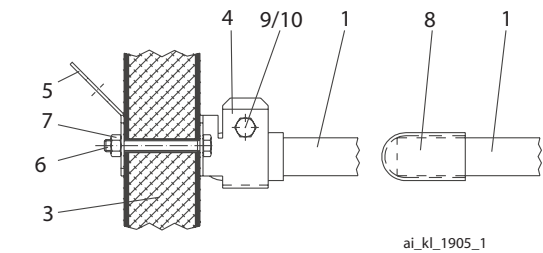
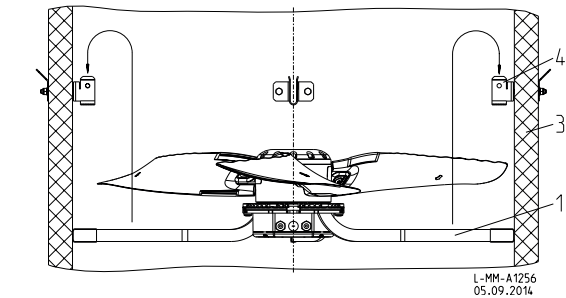

figure 2
figure 3
Tighten the mounting bracket (4) and the support bracket (5) **fig. 2** with screws (6) only so far that the mounting bracket and support bracket do not dig into the chimney wall (3).
Self-locking nuts (7) are used for securing the screws. The enclosed protective caps (8) are to be pushed onto the ends of the fan supports (1), **fig. 2**.
Feed the fan (1) into the chimney in accordance with **fig. 3**, and center it in the mounting bracket (4). In addition, the support is to be secured in accordance with **fig. 2** by using bolts (9/10). The four support clamps (5) are used as support eyelets for additional fixings (e.g. by standing ropes) in order to relieve the chimney of the weight of greater fans.